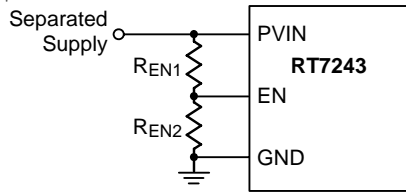
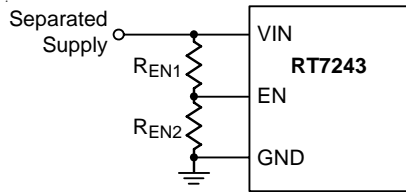
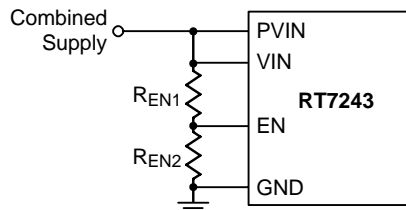

Figure 4. Resistor Divider for PVIN UVLO Setting
Figure 5. Resistor Divider for VIN UVLO Setting,
Figure 6. Resistor Divider for PVIN and VIN UVLO
The EN pin can also be applied to adjust its Under-Voltage Lockout (UVLO) threshold with two external resistors divider from the both input VIN and PVIN pins used together or separately, and the application structures can refer to Figure 4, Figure 5, and Figure 6.
Under above application structures, the adjustable UVLO function of EN pin allows to achieve a secondary UVLO on PVIN pin, a higher UVLO on VIN pin or even a common UVLO on both VIN and PVIN pins. For example, if the EN pin is configured as Figure 5 and the output voltage is set to a higher value 10V. The device may shut down after soft-start sequence is over, and the reason for the result is that the V_{OUT} is still lower than its set target during the V_{IN} rising period even though V_{IN} has already risen to its internal UVLO threshold 4V. To prevent this situation, an adjustable UVLO threshold from EN pin is useful to avoid such high output transfer condition. The exact UVLO thresholds can be calculated by Equation (3). The setting V_{OUT} is 10V and V_{IN} is from 0V to 18V. When V_{IN} is higher than 12V, the device is triggered to enable the converter. Assume R_{EN1} = 56kΩ. Then,